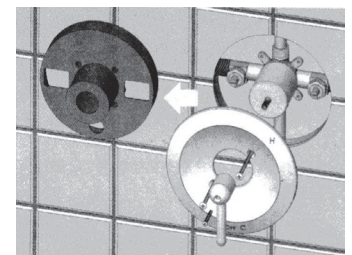

Figure 3
6. After wall is finished, remove plastic guard and replace with trim sleeve and escutcheon plate (see **Figure 3**). Orient handle so that lever is pointed down toward "OFF" position.